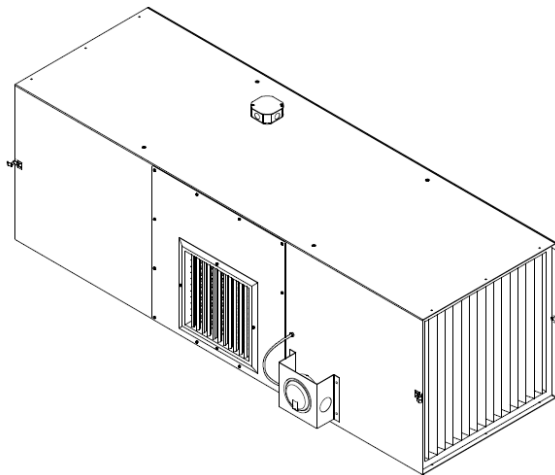

FIG. 6
4. Mount the bracket using the (4) self-tapping screws.
5. Using $\frac{1}{4}$ " clear tubing connect the "LOW" pressure port on the gauge to the pre-installed barb fitting on the unit. The "HIGH" pressure port stays disconnected (See FIG. 6). **NOTE:** The magnahelic assembly will be installed from the factory when purchased with the unit.